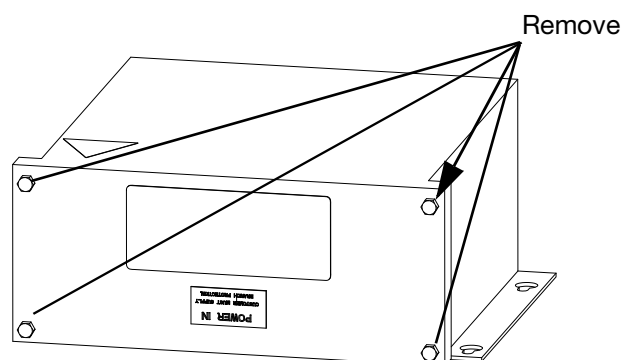

FIG. 8: Standalone Transformer
3. Remove the four screws on the transformer as shown in **FIG. 8** and remove the front cover.